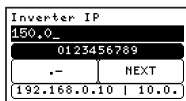

fig. 19: Characters selected
- 7.3** When an input option is selected, use  and  to navigate and select a character or pre-defined value like an IP-address. Press  or wait 3 seconds to confirm the selected character or value. (fig. 19)